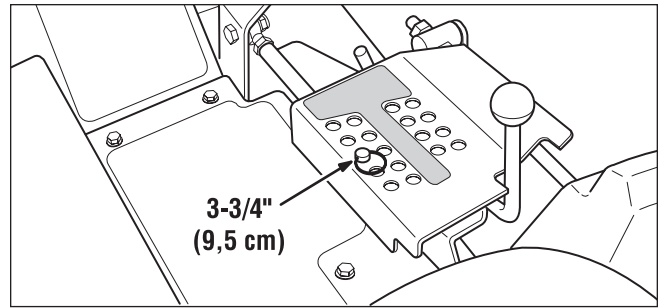

Figure 38. Deck Height Pin Position
2. Install the cutting height adjustment pin in the 3-3/4" (9,5 cm) position. See Figure 38.